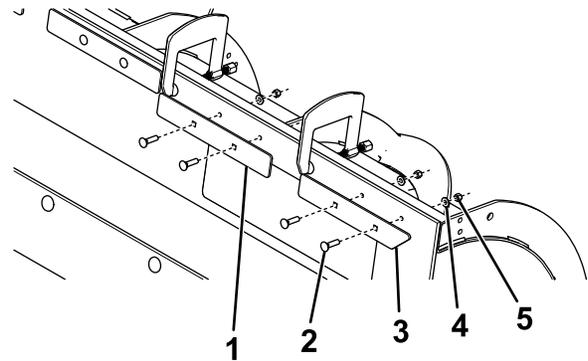

Figure 2
**Note:** If your plow does not have holes to use as a guide, use Figure 2 as a guide for where to drill.
- Secure the 45° straps to the outer holes using 4 carriage bolts (5/16 inch), 4 washers (5/16 inch), and 4 nylon locknuts (5/16 inch) as shown in Figure 2.
- Secure the square straps to the remaining holes (Figure 2) using the hardware listed for your plow below: